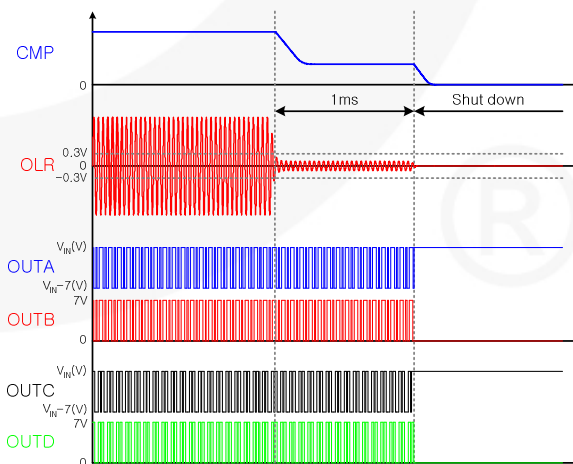

Figure 53. Short-Lamp Protection
**Short-Lamp Protection:** If the minimum of the rectified OLR voltages ( $V_{OLR}^{\min}$ ) is less than 0.3V in normal mode, the IC is shut down after a delay of 1ms, as shown in Figure 53. This protection is disabled in striking mode to ignite lamps reliably.